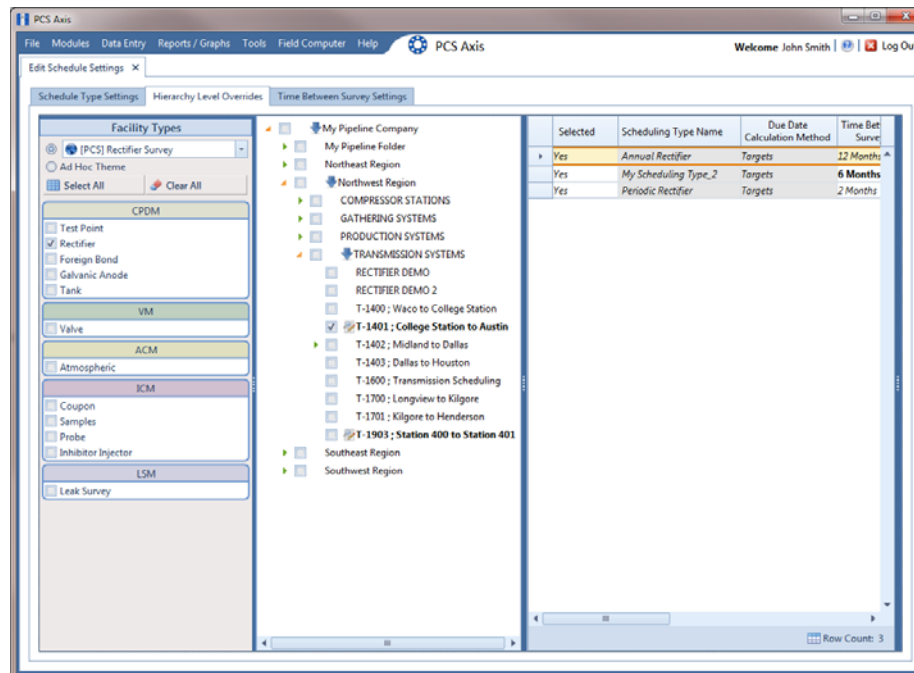

Figure 9-8. ROW Selection(s)
- 4 Select the ROW(s) you want to work with by clicking the check box for each ROW in the middle pane of the *Hierarchy Level Overrides* window (Figure 9-8).